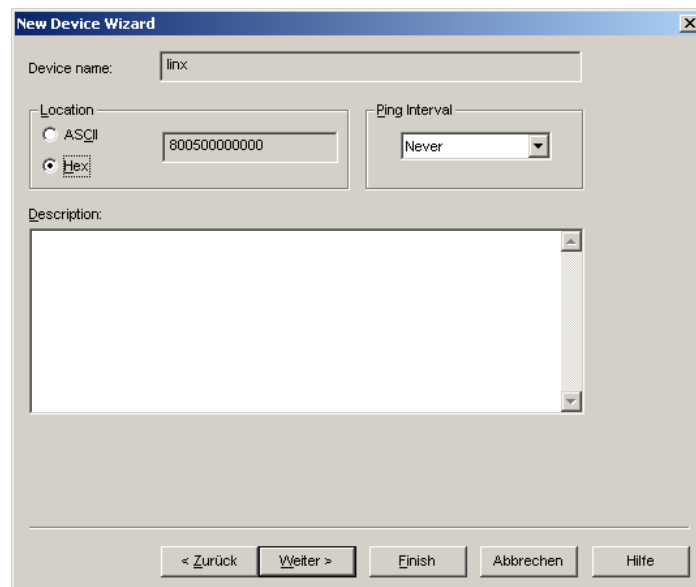

Figure 66: Leave defaults for Location.
5. The following dialog shown in Figure 66 appears, click **Next**.